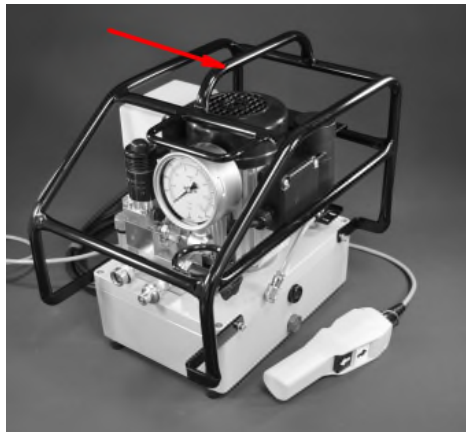

Fig. 2
- c. hanging: use suitable slings (no chains, no metal ropes). Attachment point for slings as shown in Figure 2